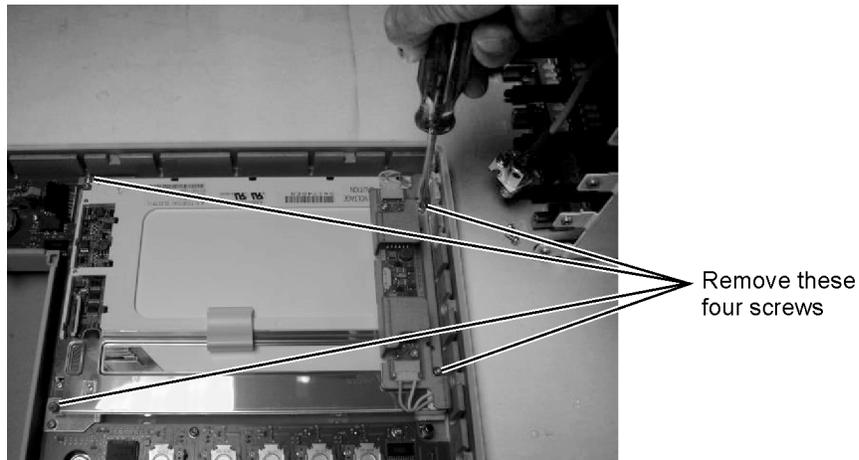

Figure 4-16. Removing the Display Screws
- 2 Use a T-10 TORX driver to remove the four screws that secure the display to the front panel, as shown in Figure 4-16.